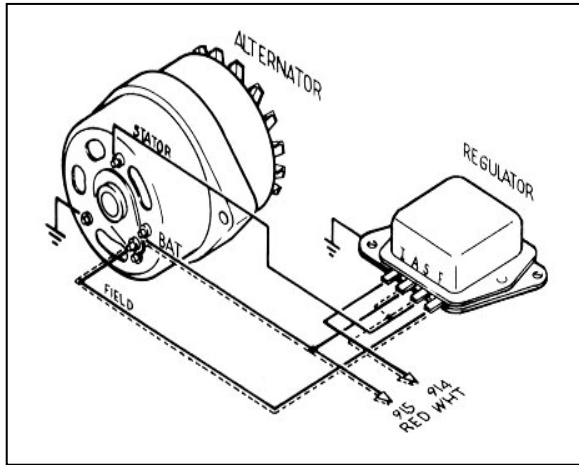

Figure 8-1A Ford Alternator (2 configurations)
- 8.1.5 An alternate (and less-used) method is to omit the Alternator Stator wire, install a 14-gauge jumper across Voltage Regulator terminals A & S, and connect wire #914 to either the A or S terminal of the Voltage Regulator. The FIELD wire and wire #915 are connected as above. Do **NOT** install a jumper as in **Paragraph 8.1.2**. The Voltage Regulator Ignition (I) terminal is not connected. Install ground wires as in **Paragraph 8.1.4**. This alternate configuration is illustrated in dashed lines in **Figure 8-1A**.